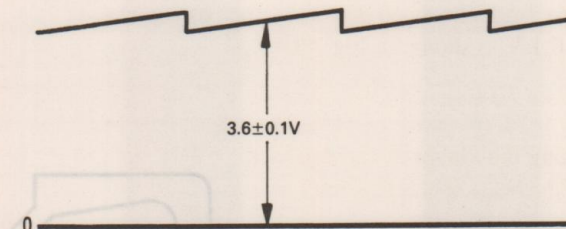

Figure 49
- ① Place the VTR in the REC mode.
- ② Observe the Main Servo TP2 through the oscilloscope, and fine adjust the Cylinder Lock Control in the hybrid IC (I704) so that the voltage at TP2 is as shown in Fig. 49.
- ② Observe TP7 of the Main Servo IC through the oscilloscope, and fine adjust the Capstan lock Control in the hybrid IC (I704) so that the voltage at TP7 is as shown in Fig. 49.
- ① Place the VTR in the Playback mode.
- ② Observe TP2 of the main servo circuit on the oscilloscope and check to see that the voltage at TP2 is  $3.6 \pm 0.1$  V as shown in Fig. 49.